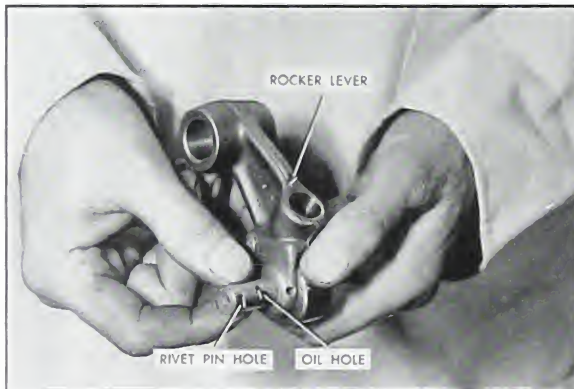

Fig. 4-13. Assembling cam follower roller pin
2. Assemble new pins to rollers in position. (Fig. 4-13.)